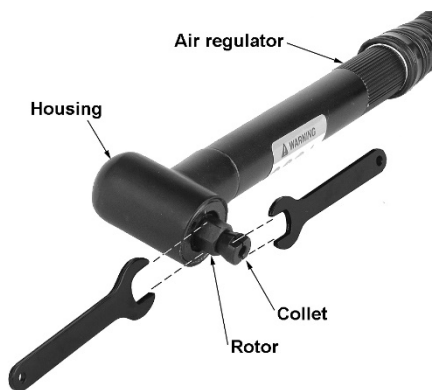

Figure 1
2. Place the 8mm wrench on the rotor end (Figure 1). Keep wrench stationary. Place 6mm wrench on collet flats and turn counterclockwise to loosen collet.